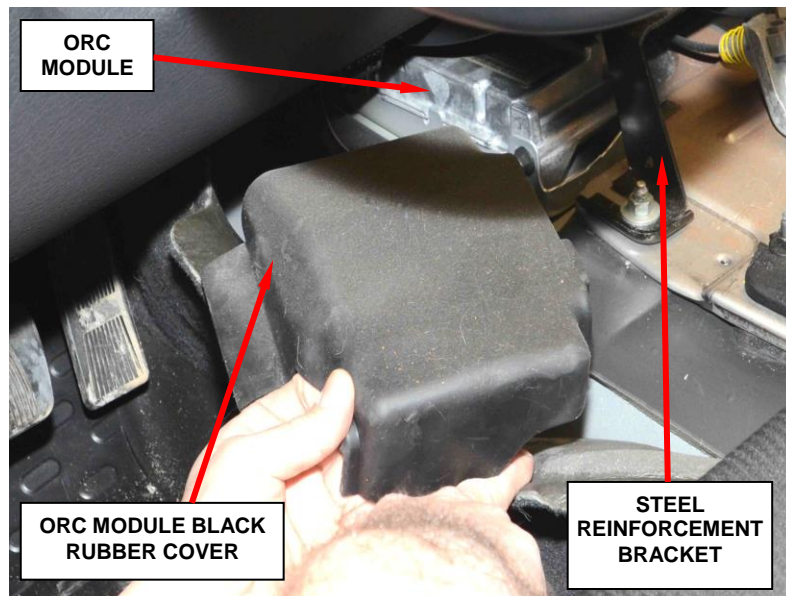

Figure 4 – ORC Module Black Rubber Cover
11. Remove and save the steel reinforcement bracket (Figure 4).
15. Remove and save the ORC module black rubber cover (Figure 4).